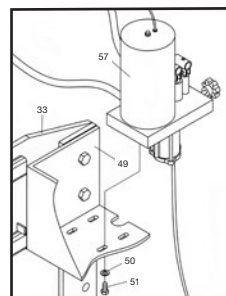
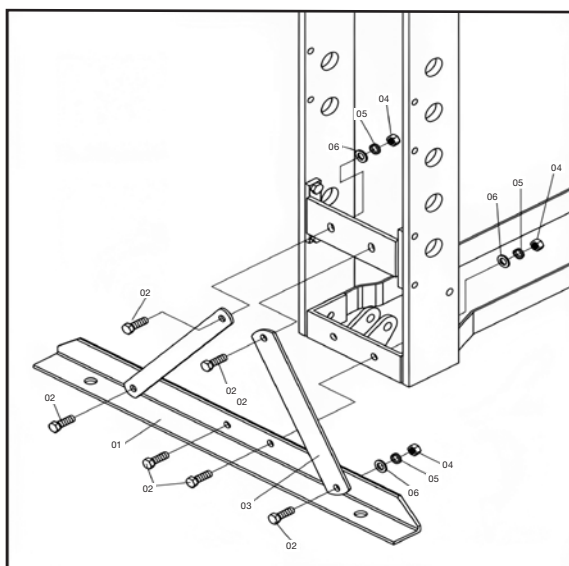
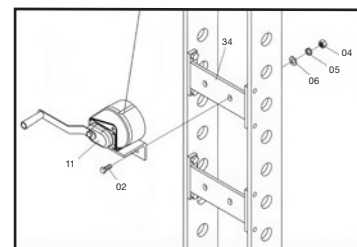

Figure 3
Figure 2
Figure 5
- **Attach the FootSection (3) and Support (2) to left and right Connecting Plate (7) using Bolt (01), Washer (04), Lock Washer (05) and Nut (06).** (figure 2)
- Assemble the Nylon Ring (42) to Gauge Fitting (43), then put the Pressure Gauge (41) and twist tight. NOTE: twist as tight as possible, otherwise it may leak. Attach the gauge fitting to the suitable upper cross beam and twist bolt.
- Pump assembly: attach the Pump Assembly (98) to pump setting plate by using three Bolts (51) and Lock Washer (50) and twist tight. (figure 3, 4)
- Oil hose 1 assembly: dismantle the plug from Oil Hose 1 (58) then assemble the O-Ring (45), also dismantle the plug from Ram Assembly (37), connect the Oil Hose 1 (58) to Ram Assembly (37) and twist tight.
- Oil hose 2 assembly: attach the O-Ring (45) to Gauge Fitting (43), then put the Oil Hose 2 (59) into the Gauge Fitting (43) and twist tight, connect the PU Pipe (A-A). Attach the Handle (100) to the Pump Pin by using Bolt (51) and twist tight.
- Move the Hand Winch (11) to the outside of the post, then use Bolt (02), Washer (06), Lock Washer (05), and Nut (04) which were dismantled just now to twist tight and fix to the relevant roller. (figure 5)